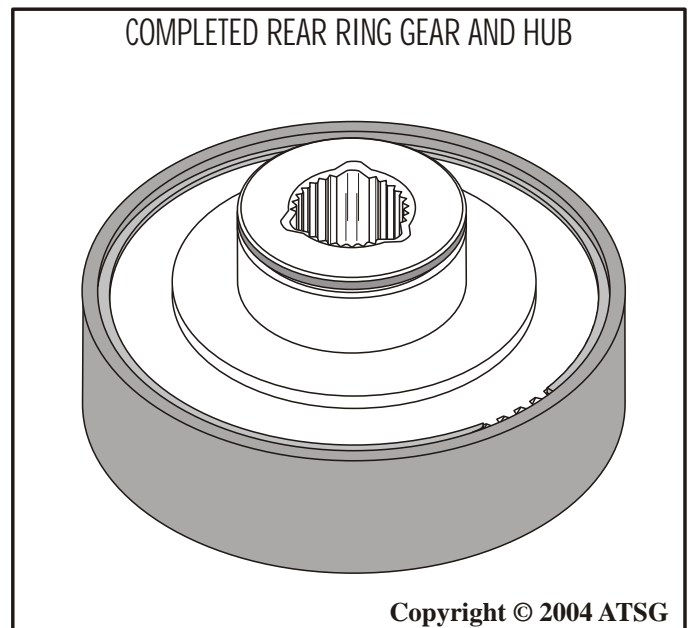

Figure 101
5. Set completed rear ring gear and hub assembly, as shown in Figure 101, aside for the final assembly process.